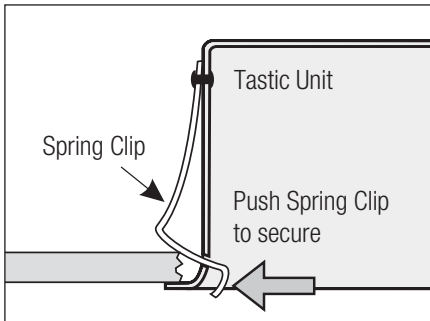

Fig.9
- 3 To secure the unit in position, push lower ends of springs apart (Fig 9).